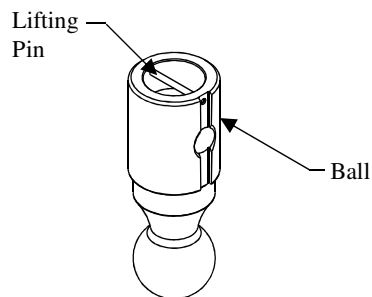

Figure 5
11. With the ball in the stored position (see figure 5). Check for clearance between ball and truck equipment (I.E. differential, brake lines, electrical lines, and others) by measuring from axle up to rubber bumper stop and from ball to nearest item. If insufficient space is present, inform customer not to store ball in the head when carrying heavy loads. The axle to the rubber bumper stop distance should be less than the ball to nearest item.